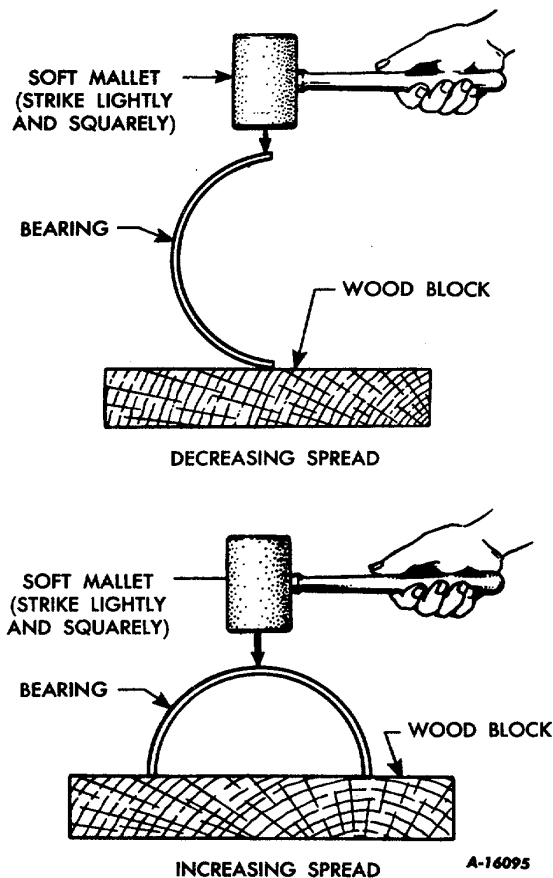

Fig. 119
1. Excessive Spread. If measurement of spread indicates that distance "A" is excessive (see chart for specifications), place the bearing on a wood block and strike the side lightly and squarely with a soft mallet, Fig. 119. Recheck measurement and, if necessary, continue until correct width (measurement "A" in chart) is obtained.
2. Insufficient Spread. If measurement of spread indicates insufficient spread, place the bearing on a wood block and strike the back of the bearing lightly and squarely with a soft mallet, Fig. 119. Recheck measurement and, if necessary, continue until correct width (measurement "A" in chart) is obtained.